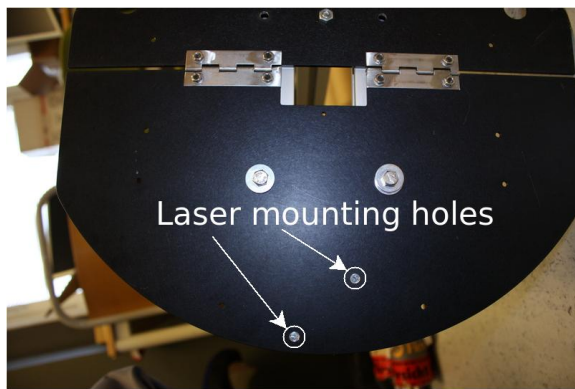
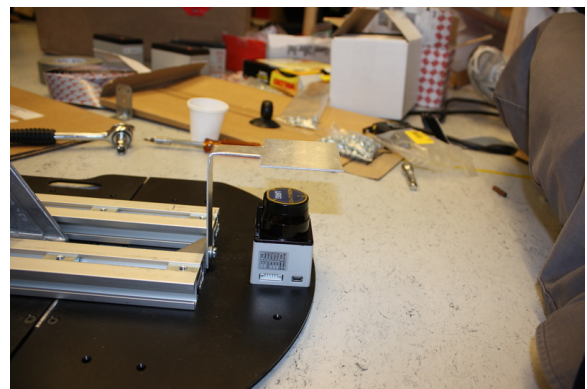

Figure 20: Laser mounting holes (bottom side of top plate)
Figure 21: The mounted laser
8. Mount the laser. It already has 2 M3x6 screws in its mounting holes. Remove them and mount the laser on the top plate using the countersunk holes provided at the front of the top plate (figure 20). **Check that the laser is oriented correctly.** A correctly oriented laser will have the connection ports to the left, when the robot is viewed from the front (figures 22 and 23). The mounted laser is shown in figure 21.